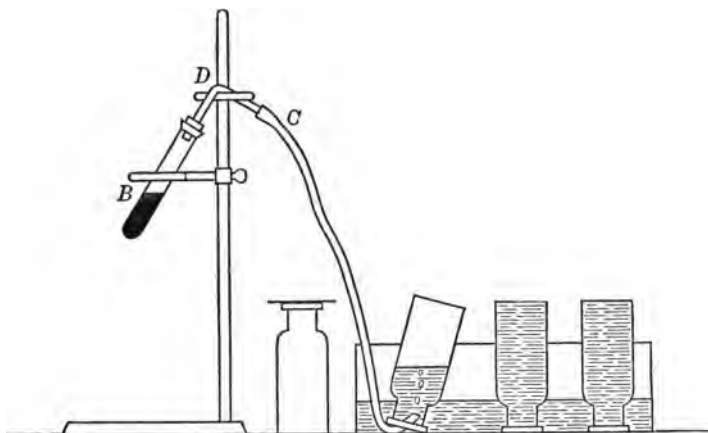

FIG. 16
**12. Collection of gases.** Fill a wide-mouthed bottle (250-cc.) with water. Cover its mouth with a glass plate, being careful to exclude all air bubbles. Hold the plate firmly in place, invert the bottle, and bring its mouth below the surface of the water contained in a suitable vessel. The most convenient vessel is a rectangular box of sheet iron called a *pneumatic trough* (Fig. 16). Remove the glass plate. Why does the water remain in the bottle? Now fill the bottle with exhaled air by placing one end of a piece of glass or rubber tubing under the mouth of the bottle and blowing gently through the other end. The bubbles will rise and fill the bottle.
**15. Usual laboratory method.** Arrange an apparatus according to Fig 16, in which *B* is a hard-glass test tube, *D* a glass tube bent at right angles, and *C* a piece of rubber tubing. Mix intimately on paper 6 g. of potassium chlorate and 3 g. of manganese dioxide. Transfer the mixture to a hard-glass tube and insert the cork; then, holding the burner in the hand, heat the mixture gently with a small flame, applying the heat at first to the upper part of the mixture. The flame must not strike the upper part of the test tube, as the cork may be ignited. At first the heat expands the air and a few bubbles escape; at a higher temperature the oxygen is evolved. Regulate the heat so as to secure a uniform and not too rapid evolution of the gas. By displacement of water collect three
**21. Preparation from sodium hydroxide.** Provide a hard-glass test tube with a stopper and a delivery tube, as shown in Fig. 16. Finely powder about 2 g. of solid sodium hydroxide in a mortar and mix it with a little more than an equal weight of zinc dust. Place the mixture in the bottom of the test tube, clamping the tube in a nearly horizontal position, the bottom being slightly higher than the mouth (why?). Heat the mixture carefully, collecting the gas evolved in a test tube by displacement of water. Test it with a lighted splint as in § 20. What is the source of the gas?
**23. Usual laboratory method.** Arrange a hydrogen generator according to Fig. 18, in which *D* represents a wide-mouthed bottle of about 250-cc. capacity. The gas delivery tube *B*, *C* is the same as that used in the preparation of oxygen (Fig. 16). The funnel tube *A* must extend nearly to the bottom of the bottle (why?). Put 10 g. of mossy zinc (why mossy